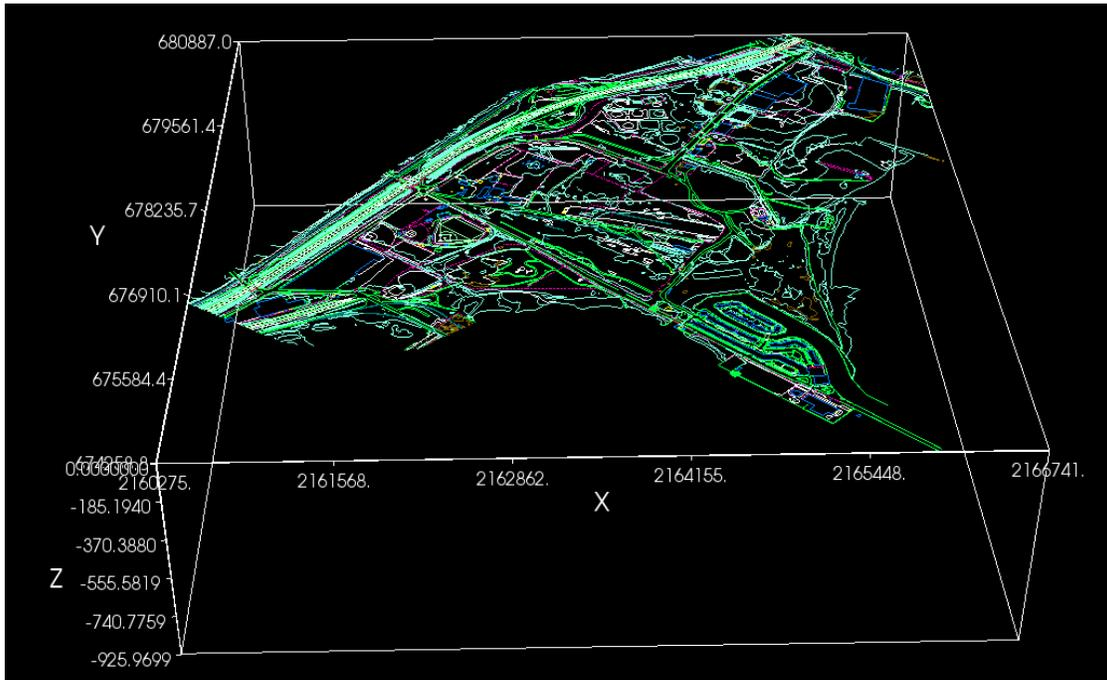

Figure 2.7. A DXF map and an *Axes Box* showing the XYZ coordinates.
3. Once the file is imported, a Coordinate Transformation dialog box appears (Figure 1.4), where you can simply click OK to accept the default values or enter the desired parameters to sequentially translate, zoom (scale), and rotate the graphical objects contained in the DXF file. As CAD applications often save DXF files in various coordinate systems, chances are that if the parameters are not correct, the DXF file may be displayed in incorrect size or even completely outside of the Viewport. If this happens, you can import the DXF file to a new instant of Seer3D, and then add an *Axes Box* (see Section 4.4 for details) to display the coordinates of the DXF file. Figure 2.7 illustrates an example of a DXF map and an *Axes Box*. Once the coordinates of the DXF file is known, you can use the knowledge to find out the correct coordinate transformation parameters.